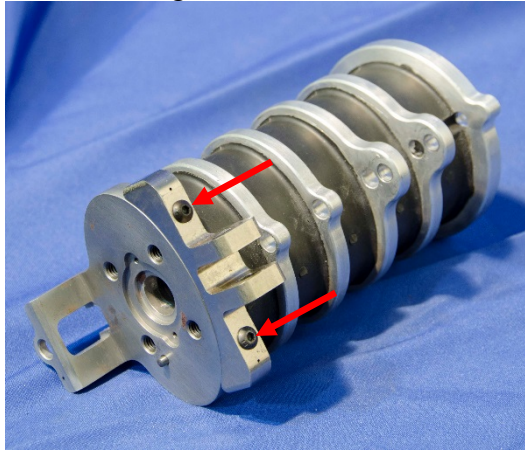

Figure 4-8. Install rear pulley bracket to neck
- 4.2.2.1 The anterior/top of the neck can be identified by the surface containing the machined vertical bracket. Install the Rear Pulley Bracket (472-2300) to the posterior top of the neck using two M4 x 0.7 x 20 BHCS (Figure 4-8).